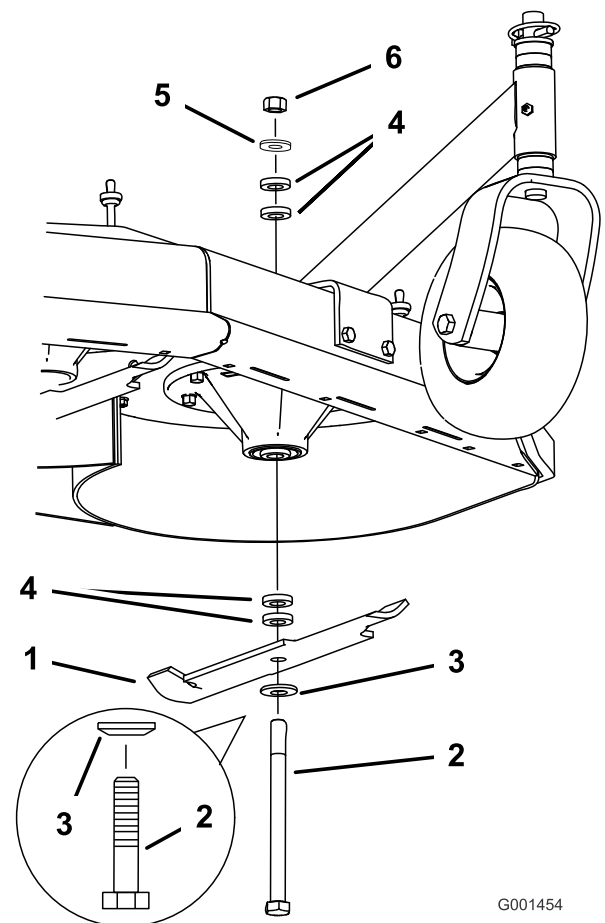

Figure 56
2. Remove the nut, blade bolt, curved washer, blade, spacers, and thin washer from the spindle (Figure 56).
1. Install the curved washer and then the blade onto the bolt. Select the proper number of spacer(s) for the height-of-cut, and slide the bolt into the spindle (Figure 56).
2. Install the remaining spacer(s) and secure them with a thin washer and a nut (Figure 56).